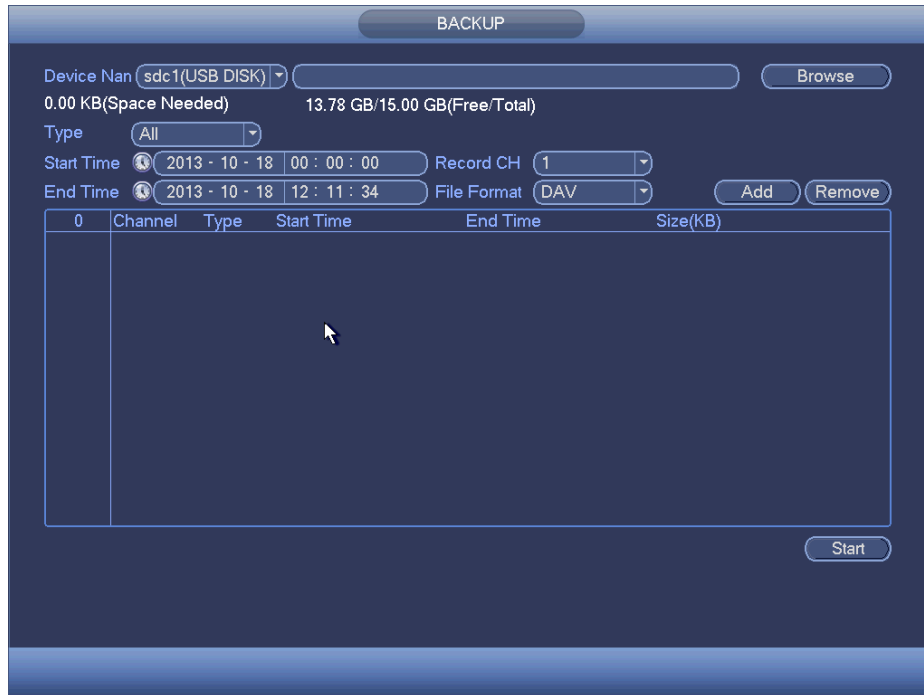

Figure 4-76
- b) From Main menu->Backup, you can go to the Backup interface. See Figure 4-76